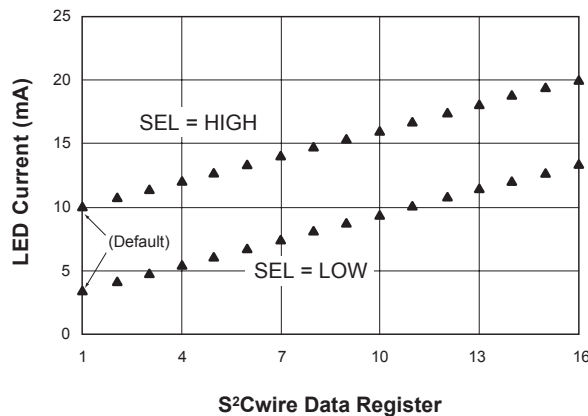

Figure 2: Programming LED Current with R_{BALLAST} = 30.1Ω.
There are three (3) buttons on the evaluation board. The modes of operation are detailed in Table 1. Each button controls a particular function. The SW1 (Up) button increments the number of EN/SET edges, and the AAT1231 increases the FB pin voltage according to Table 2. By holding down the Up button for more than 1.5 seconds, the microcontroller enters auto-increment mode. The SW2 (Down) button decrements the number of EN/SET edges and the AAT1231 decreases the FB pin voltage. By holding down the Down button for more than 1.5 seconds, the microcontroller enters auto-decrement mode. The SW3 (Select) button toggles High/Low on the SEL pin. A green LED (D8) indicates the status on the SEL pin. If the green LED turns ON, the SEL pin is set to High. If the green LED turns off, the SEL pin is set to Low. Figure 2 details the LED nominal current levels for SEL=High and SEL=Low settings with R1=30.1Ω.